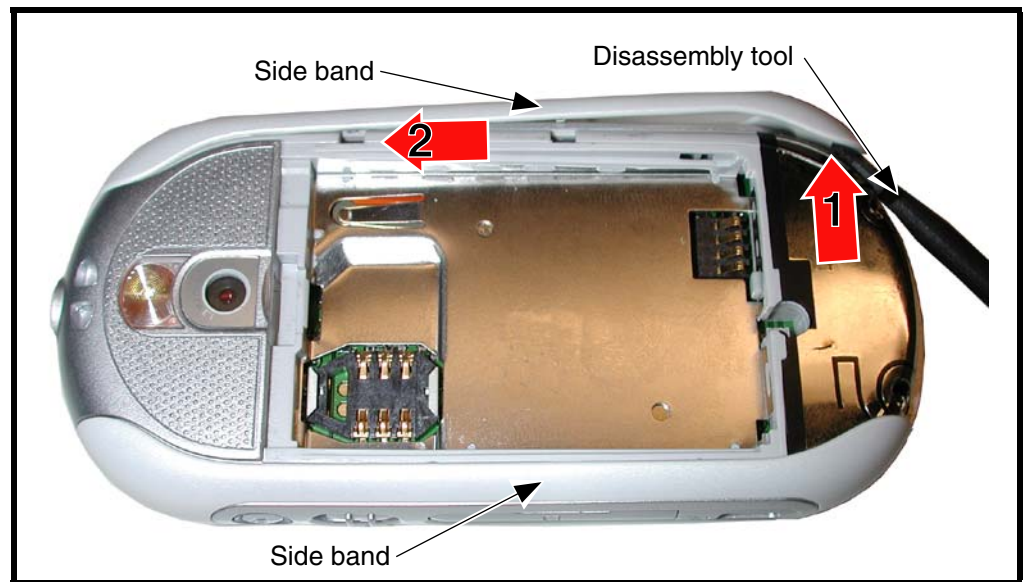

Figure 11. Side Band Removal
2. With the disassembly tool, pry the side band outward and then slide the side band upward and slide as indicated to release the side bands from the phone (see Figure 11).